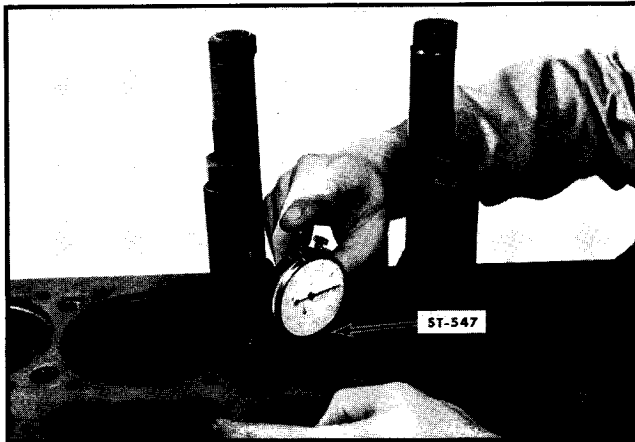

Fig. 12-16. Gauging cylinder liner protrusion
3. Depress indicator stem until point rests on flat surface of liner *outside bead*. Fig. 12-16.